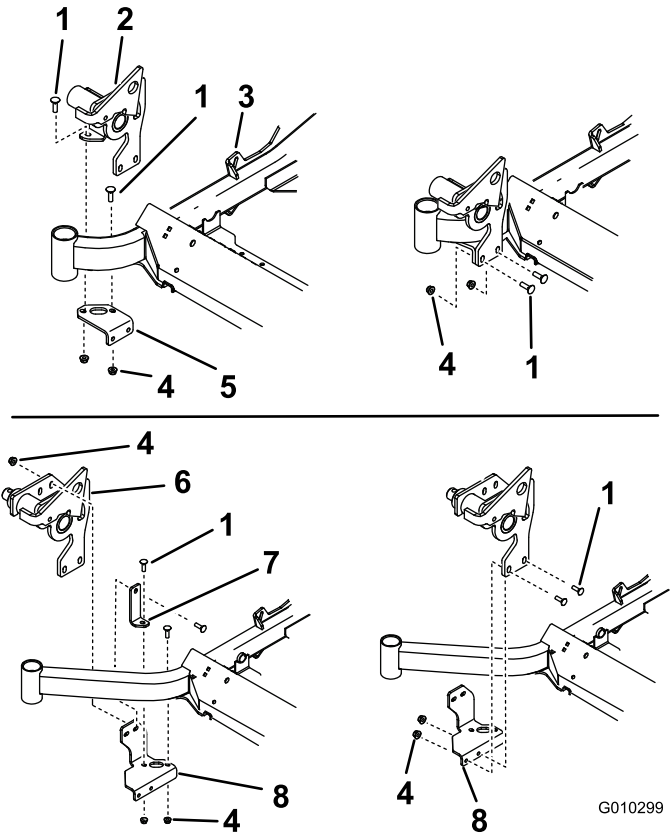
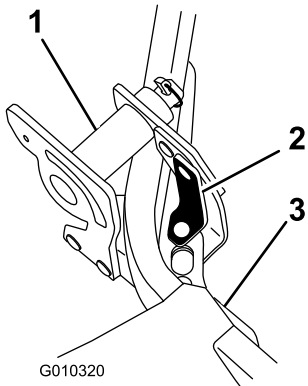

Figure 2
Figure 3
1. Place the Z Stand hub on the right front frame as shown in Figure 2.
2. For 48, 52 and 60 inch mowers, install the Z Stand hub to the frame with the bottom bracket, 4 carriage bolts (3/8 x 1-1/4 inches) and 4 flange nuts (3/8 inch)(Figure 2).
3. For 72 inch mowers, install the Z Stand hub to the frame with the bottom bracket, the angle bracket, 6 carriage bolts (3/8 x 1-1/4 inches) and 6 flange nuts (3/8 inch)(Figure 2 and Figure 3).